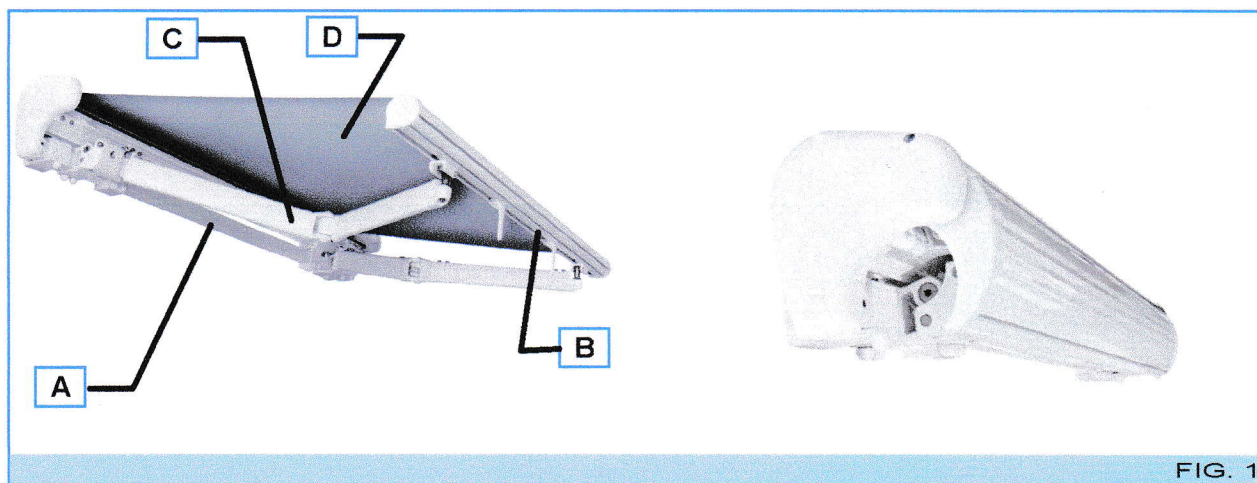

FIG. 1
- Metal structure: this consists of a frame containing the various mechanisms for opening and closing the awning. It comprises a box (A - Fig. 1) with a square bar inside, a terminal bar (B - Fig. 1) and mechanised folding arms (C - Fig. 1) fitted with sheathed cables or a stainless steel chain.
- Fabric (D - Fig. 1): this covers and protects the awning.